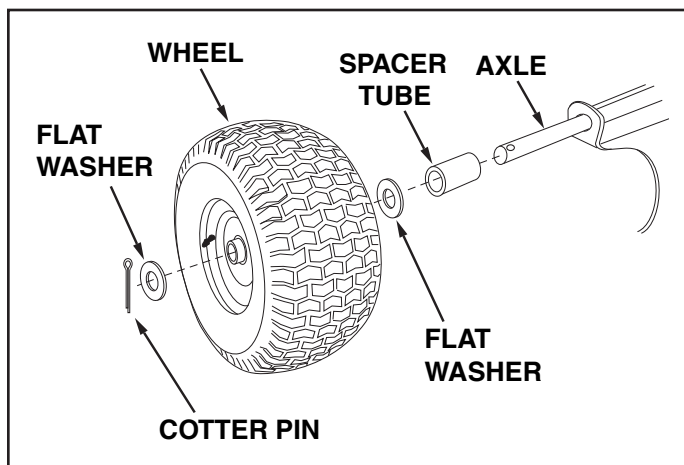

FIGURE 5
8. Assemble a spacer tube, a 1" flat washer, a wheel (valve stem facing out) and another 1" flat washer onto each end of the axle as shown in figure 5. Use the two additional washers if there is extra room on the axle. Insert a cotter pin through the axle, spreading the ends. Fill wheel hubs with grease.